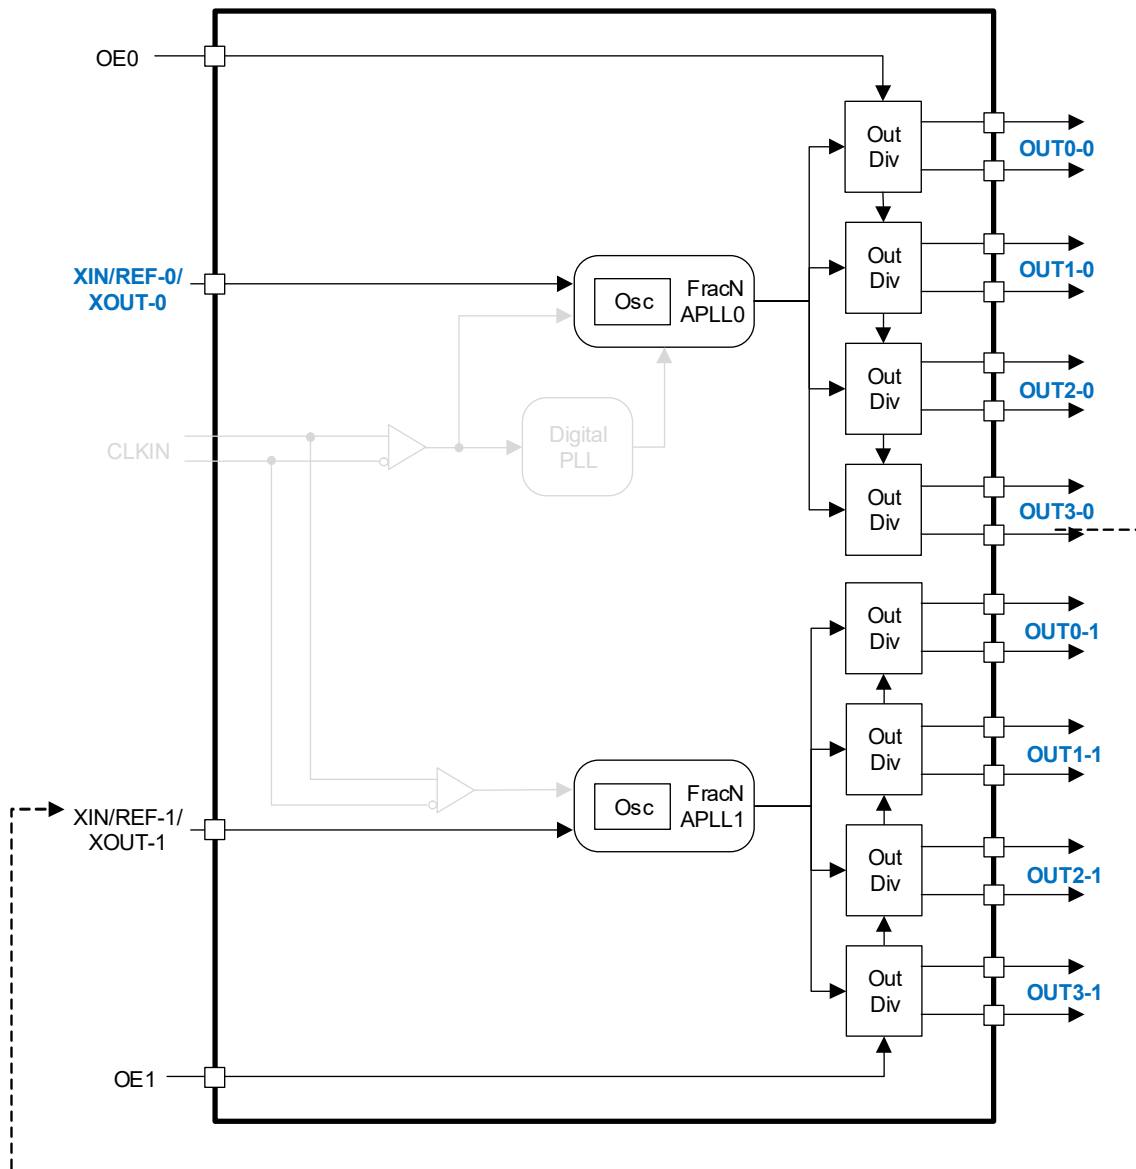

Figure 5. Clock Generator Mode with RC32508A when External Crystal fed into XIN/REF-0/XOUT-0
- As shown in Figure 5, up to two frequency domains can be obtained in this configuration and up to seven differential outputs and 1 LVCMOS output can be obtained.